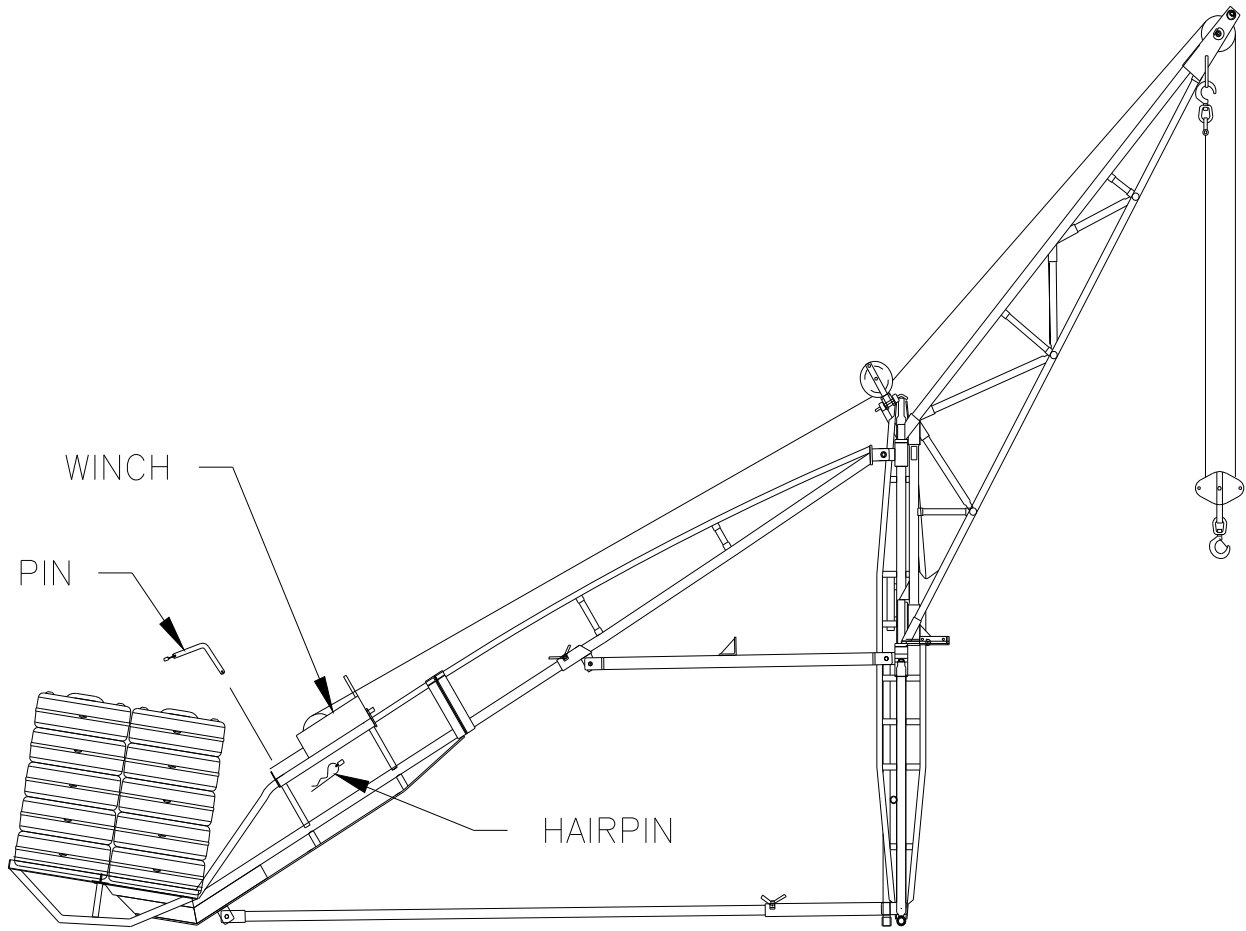

Figure 3-11.
2. Place the Winch in position on the Counterweight Leg as shown in Figure 3-11.